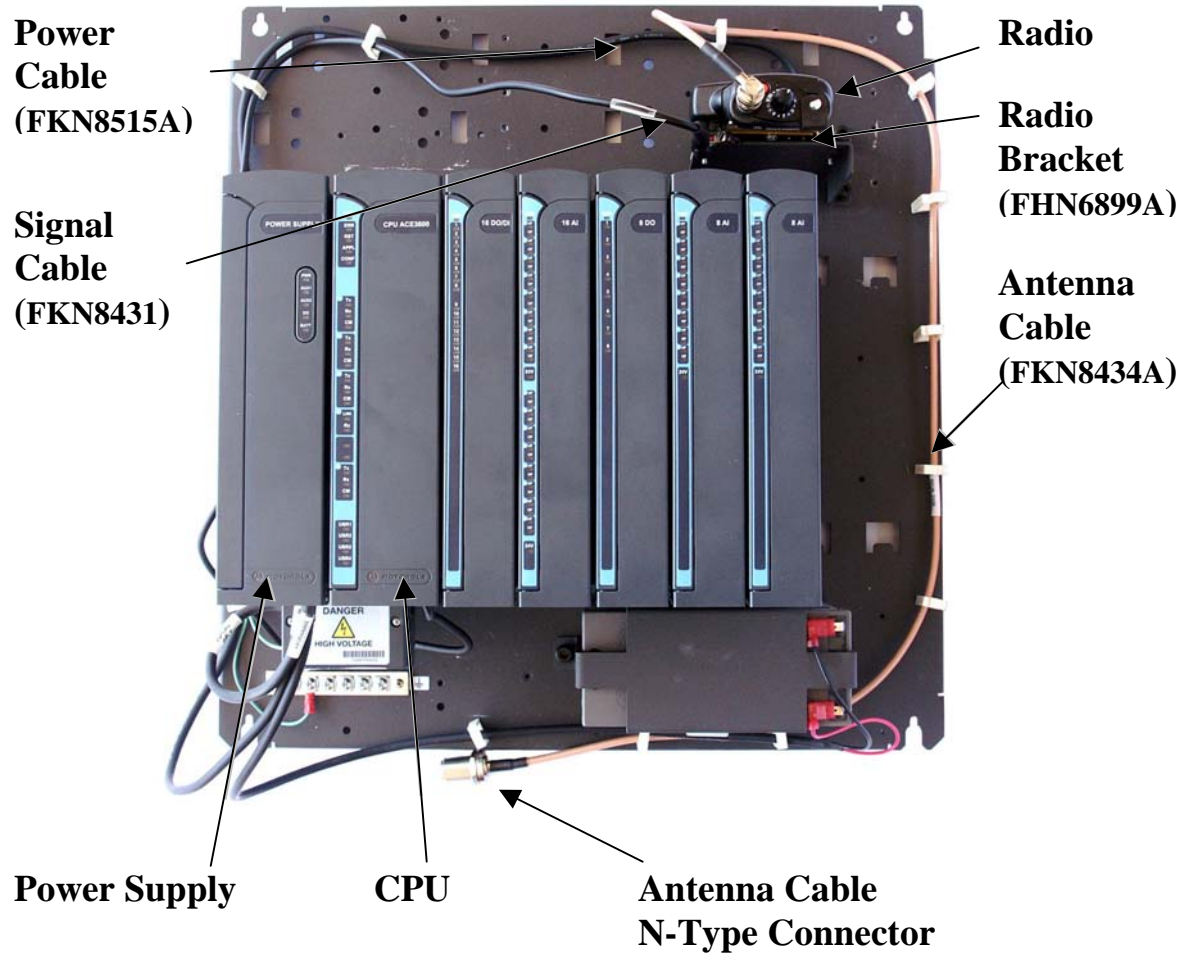

Figure 13-31 GP/HT/PRO Radio Installed on ACE3600 Chassis
8. Using the three screws on the bracket, attach the bracket with the radio to the chassis of the ACE3600. (See Figure 13-31.)
12. Use the clamps provided in the kit to route and secure the audio communication and DC power cables. (See Figure 13-31.)